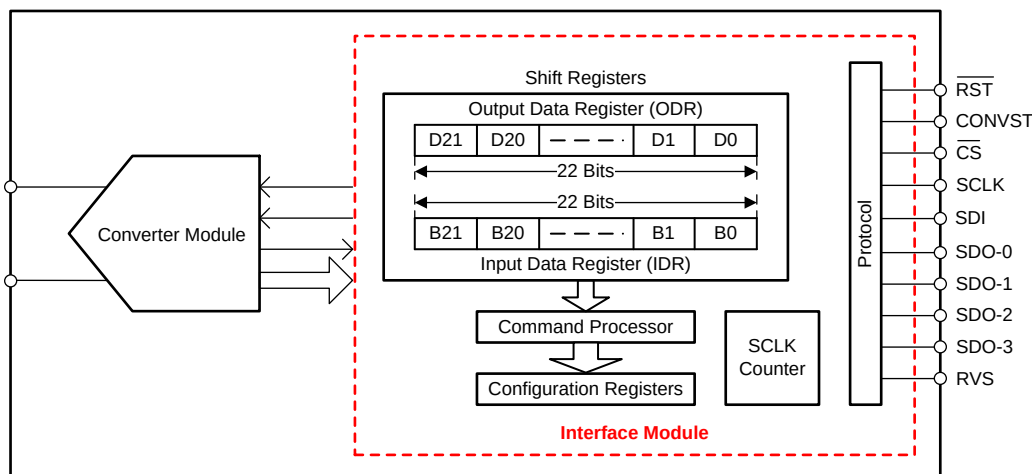
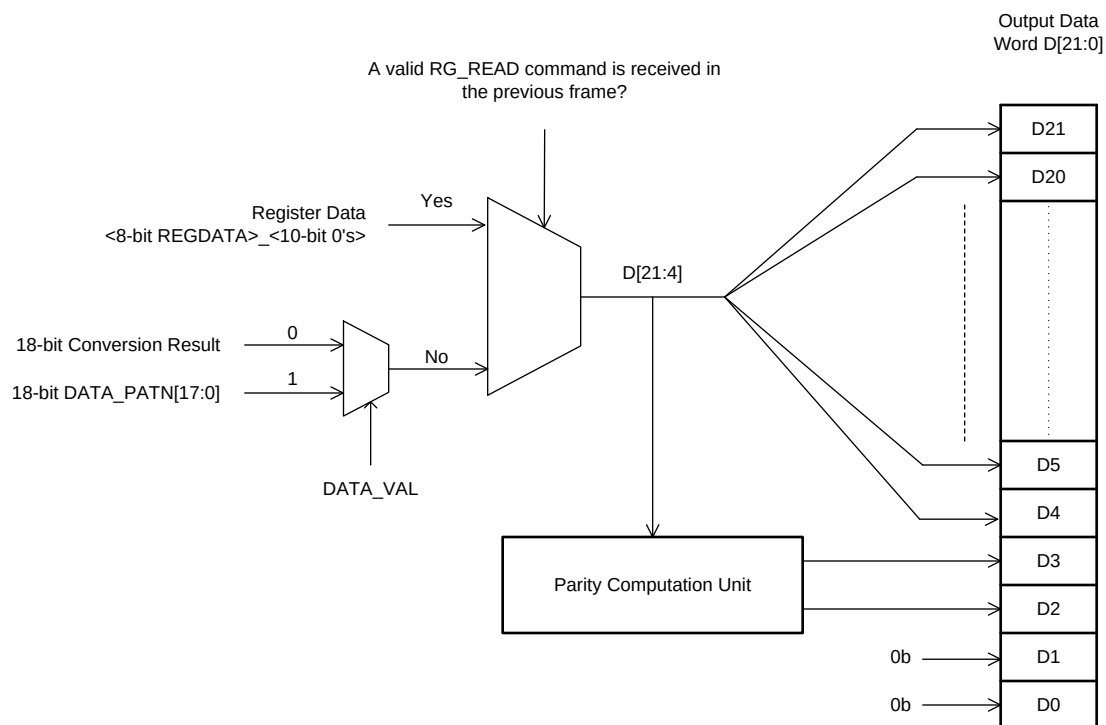
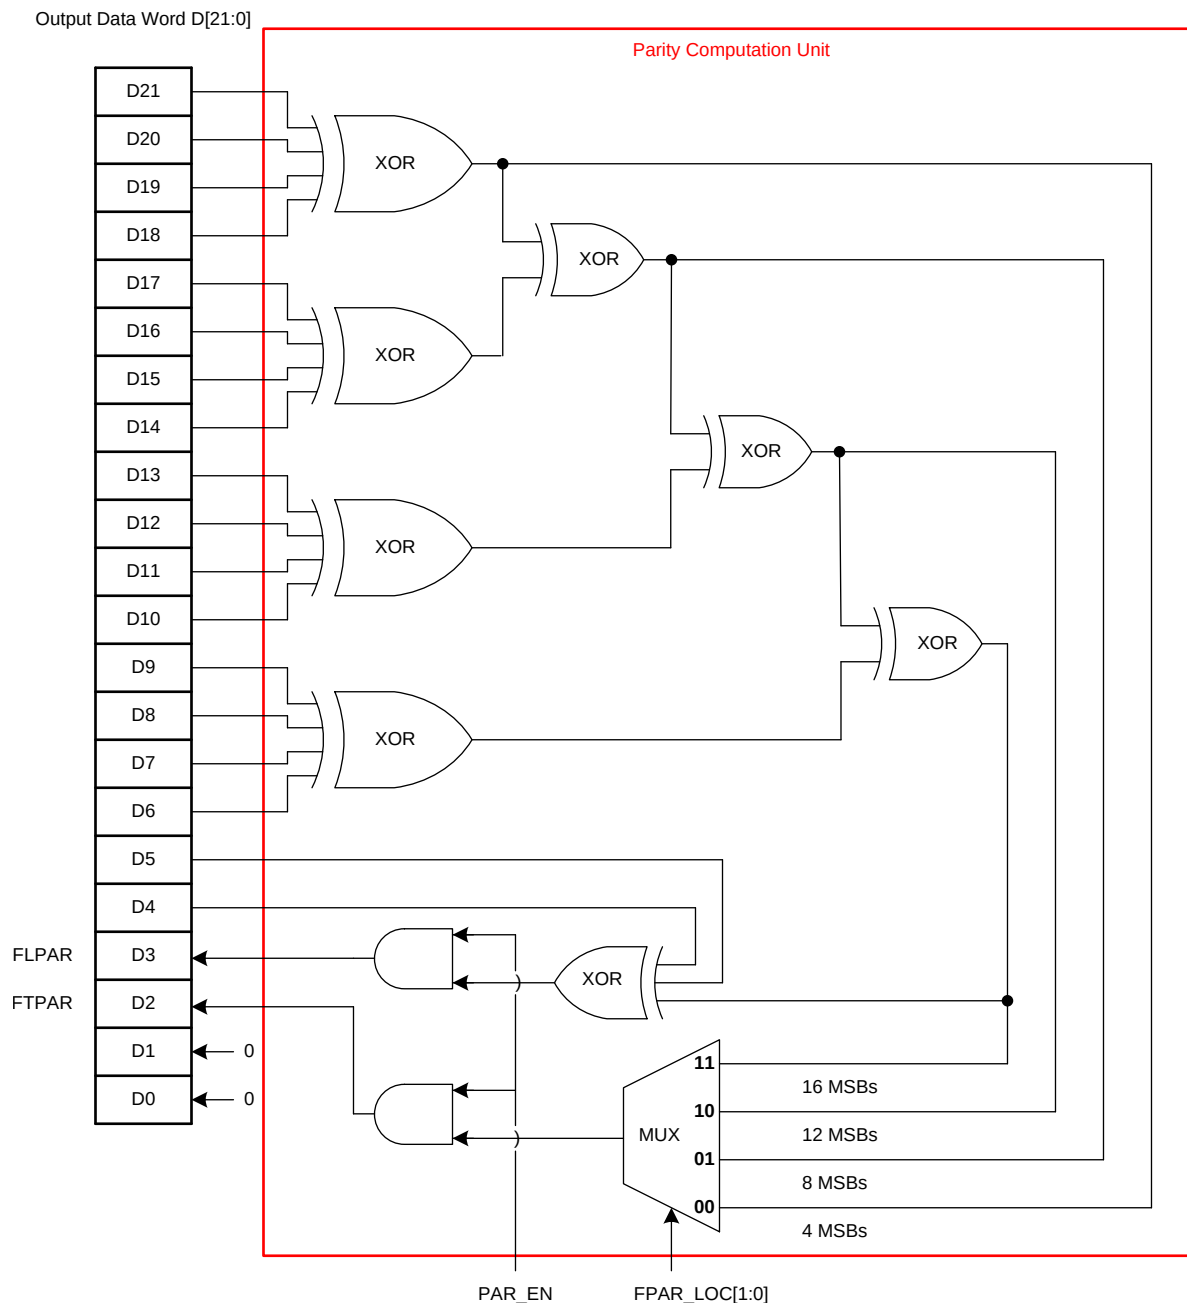
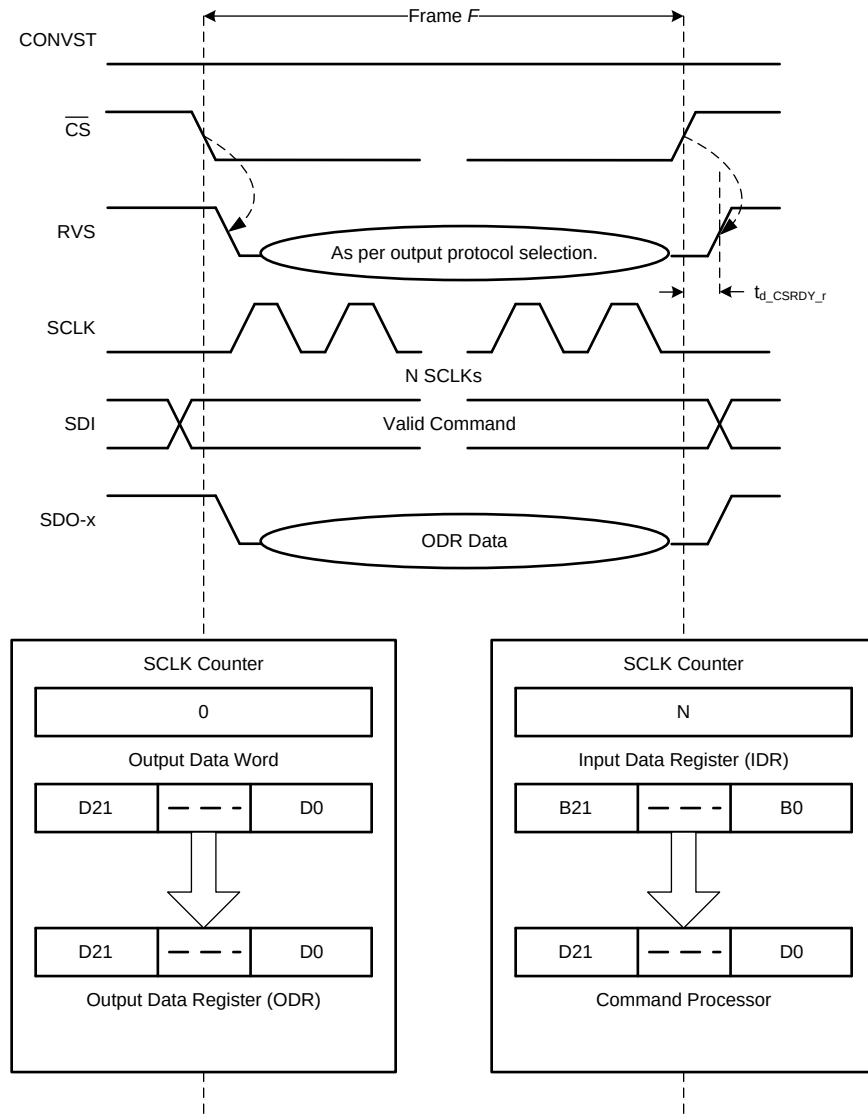

**Figure 37. Interface Module**
**Figure 41. Output Data Word (D[21:0])**
**Figure 42. Parity Bits Computation**
**Figure 43. Data Transfer Frame**
The interface module facilitates the communication and data transfer between the device and the host controller. As shown in Figure 37, the module consists of shift registers (both input and output), configuration registers, and a protocol unit.
Figure 41 shows the output data word. Figure 42 shows further details of the parity computation unit illustrated in Figure 41.
A data transfer frame between the device and the host controller is bounded between a  $\overline{\text{CS}}$  falling edge and the subsequent  $\overline{\text{CS}}$  rising edge. The host controller can initiate a data transfer frame (as shown in Figure 43) at any time irrespective of the status of the CONVST signal; however, the data read during such a data transfer frame is a function of relative timing between the CONVST and  $\overline{\text{CS}}$  signals.
- The device takes control of the data bus. As shown in Figure 43, the 22-bit contents of the output data word (see Figure 41) are loaded in to the 22-bit output data register (ODR; see Figure 37).
- The 22-bit input data register (IDR; see Figure 37) is reset to 000000h, corresponding to a NOP command.
- As illustrated in Figure 43, the 22-bit contents of the IDR are transferred to the command processor (see Figure 37) for decoding and further action.
In a short command frame, the write operation to the device is invalidated; however, the output data bits transferred during the short command frame are still valid output data. Therefore, the host controller can use such shorter data transfer frames to read only the required number of MSB bits from the 22-bit output data word. As shown in Figure 41, an *optimal read frame* for the ADS891xB devices must read only the 18 MSB bits of the output data word. The length of an optimal read frame depends on the output protocol selection; see the Protocols for Reading From the Device section for more details.